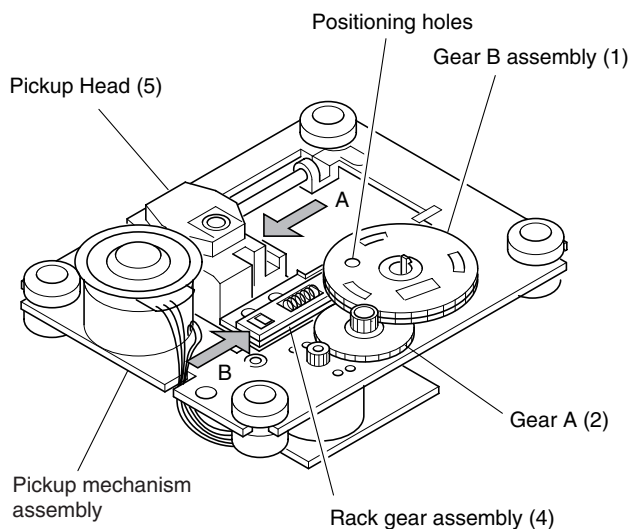

Fig. 2-1-20
2. Mount the gear B assembly (1) by pushing the pickup head (5) to the disc motor side (arrow A direction) and shifting the upper gear of the rack gear assembly (4) in the arrow B direction. (Refer to Fig. 2-1-20.)